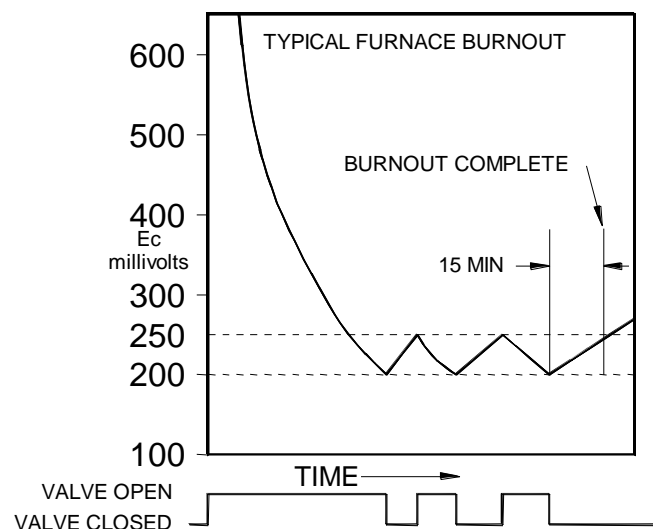

Fig. 5
**Furnace conditioning:** The destructive effect of carbon and temperature at high levels is conceded by manufacturers who normally instruct in the art of "*gentle burnout*". SSi engineers have developed an even gentler routine that shortens or eliminates the time required to "*season*" the furnace after a burnout has been completed. The recommended routine for burnout is to set the temperature to 1500°F (815°C), discontinue the carrier gas, and start to add air at a rate that will not cause a large increase in temperature. A flow rate of about 10% of the normal flow of carrier gas has been found adequate. Eventually, the **Gold Probe™** output will fall to 200 mV. At this point, discontinue the air and observe the probe output. If the output rises above 250 millivolts in less than 15 minutes, turn the air on and repeat the routine until the mV level remains below 250 for more than 15 minutes. Burnoff is complete. See Fig.5.